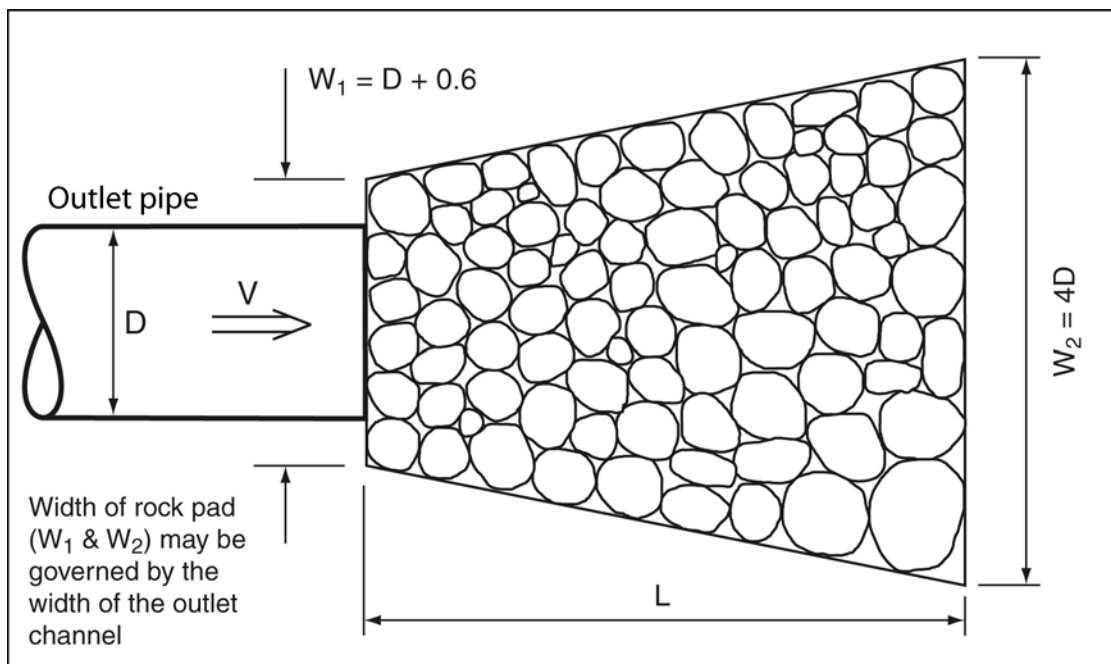

Figure 2 – Typical layout of a rock pad for a single pipe outlet (plan view)
- The final size and shape of the outlet structure (Figure 2) may need to be modified to match the size and surface conditions of the receiving channel.